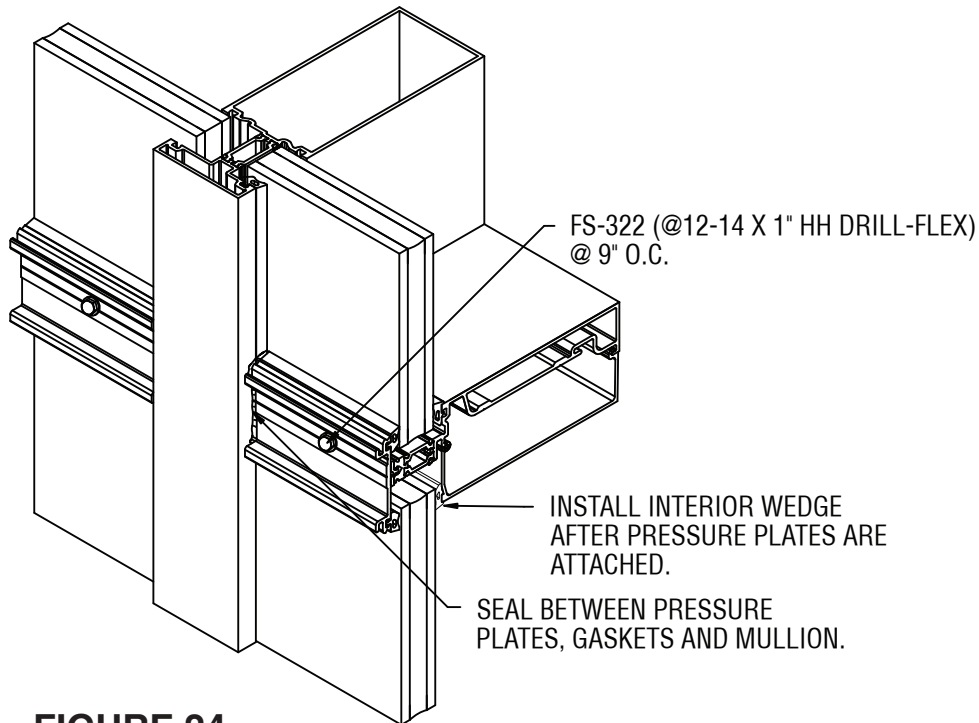

FIGURE 24
- 3.22 Seal ends of pressure plate to sides of vertical mullions. Seal ends of horizontal gaskets to vertical gaskets. **See FIGURE 24, page 27.**